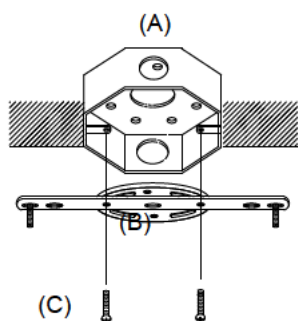

Fig. 1
Take off screws from outlet box (A). Secure the mounting plate (B) onto the box with screws (C) taken off (Fig. 1).
Step 2: Connect the fixture wires (E) to the house wires (G), black to live wire, white to neutral wire, green/yellow and green wire to ground wire. Wrap the connectors with electrical tape (H) separately.